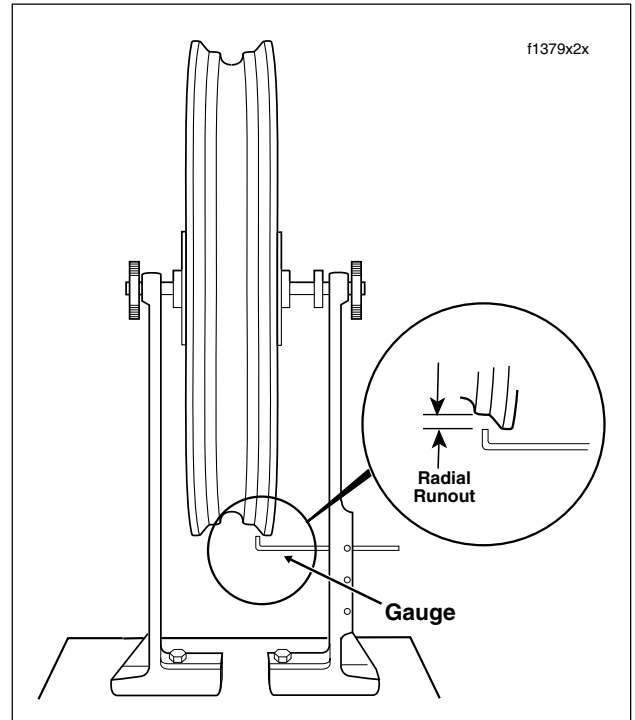

Figure 2-16. Checking Rim Radial Runout
3. See Figure 2-16. Check the rim radial runout as shown. If radial runout exceeds 0.030 inch (0.76 mm), replace the wheel if cast. Retrue the wheel if laced.